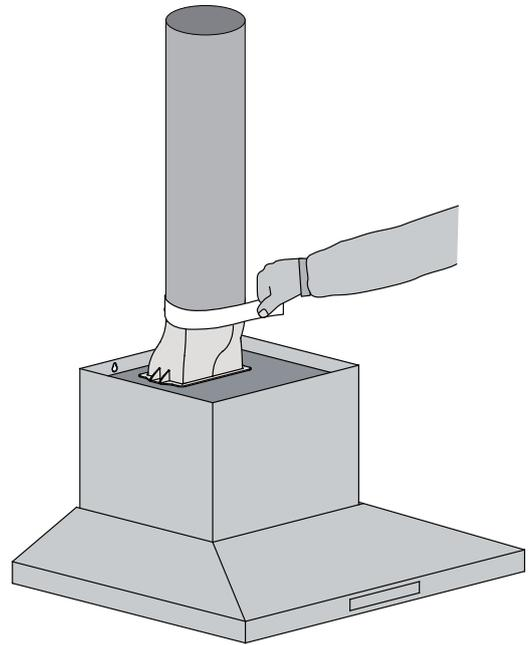

Fig. 11
- 6b. Ducted mode** (Fig. 11) Fit a 150mm diameter non combustible flue pipe. Continue the centre line to the ceiling. Fit flue pipe to the exhaust transition duct. Use cable ties or suitable duct tape to secure flue pipe to the transition duct.